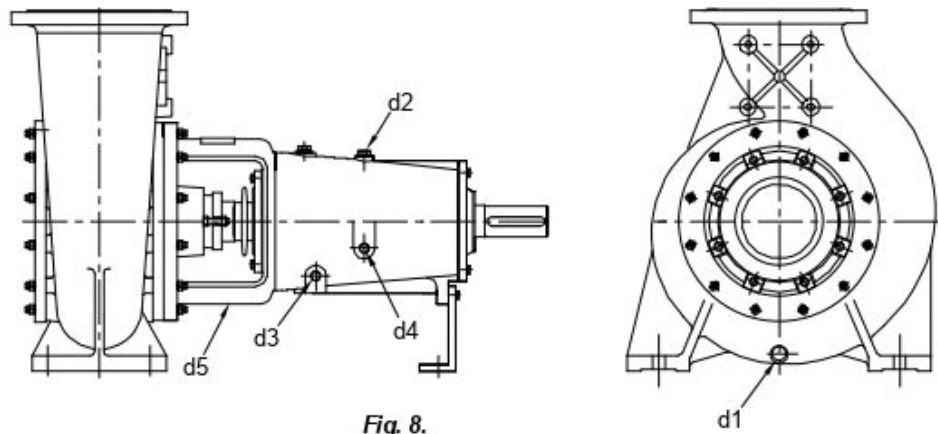

Fig. 8.
- Every pump is fitted with connections on the pump casing to drain the pump and on the bearing bracket to evacuate the seal leakage from the stuffing box (**Fig. 8**). If required the pump drain and seal leakage can be piped to a suitable reservoir. The pump draining piping must be fitted with an isolating valve and both must be suitable for the maximum operating pressure of the pump.
- Cooling, sealing and flushing of seal piping must be connected only to the designated connections located on the pump (**See Fig. 8 to 12**).